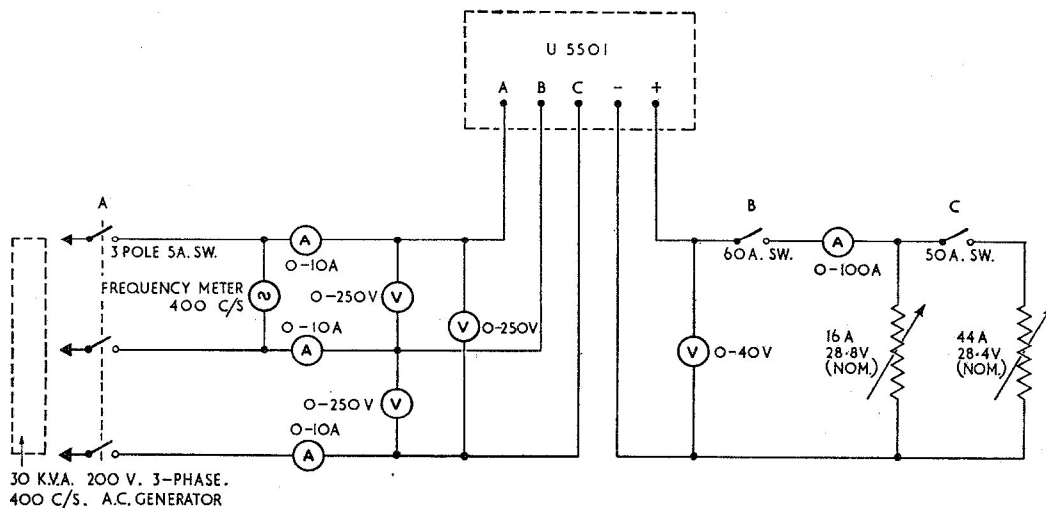

Fig. 3. Test circuit diagram
9. Connect the unit as shown in the test circuit diagram (fig. 3).